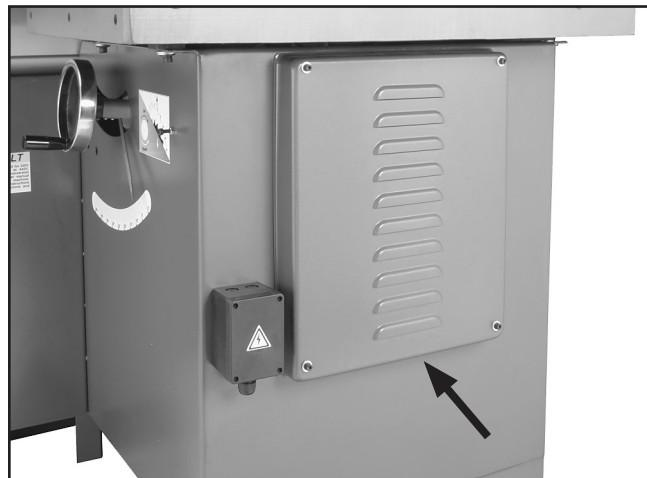

Figure 7. Motor cabinet cover.
- 2. Remove the motor cabinet cover shown in Figure 7.**